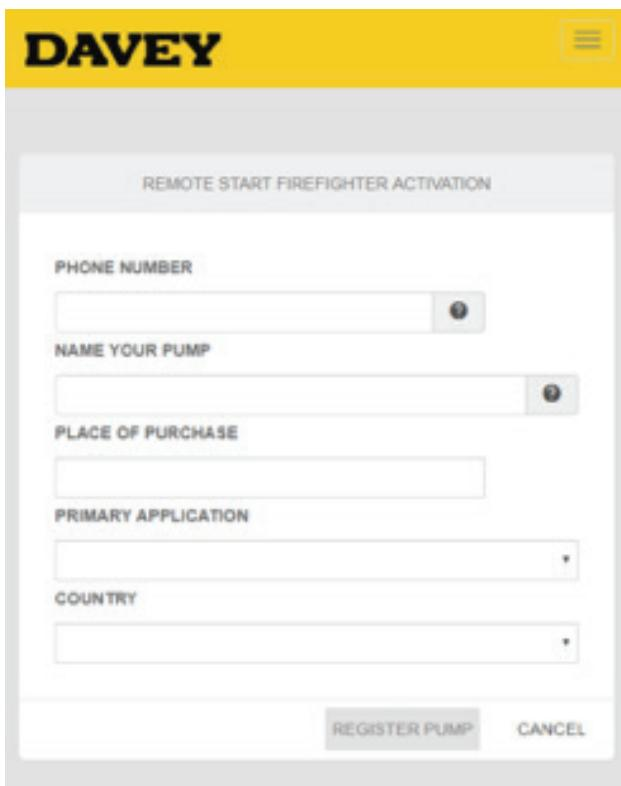

Figure 7.15
- > Activate the remote start Firefighter pump (*Figure 7.15*) by logging the phone number (of the pump). To locate SIM card number, refer to start of section 7 of this booklet;